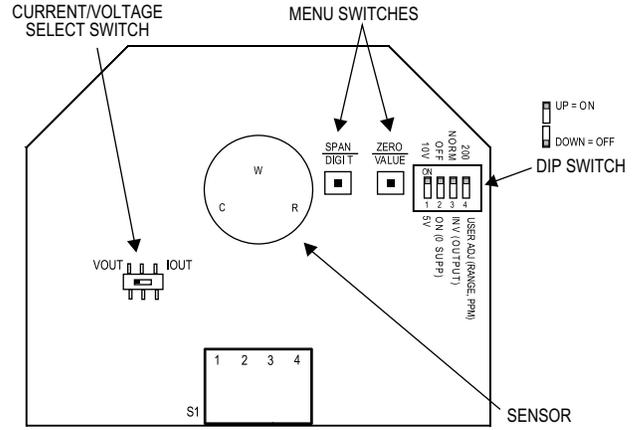

Figure 3
8. Set DIP SWITCH and IOUT/VOU SWITCH as desired. Refer to Figure 3.
To access the current/voltage select switch, remove the cover of the unit. The current/voltage select switch is located on the circuit board as shown in Figure 3. Set the switch to "IOUT" for current, "VOUT" for voltage.
To access the DIP SWITCH, remove the cover of the unit. The DIP SWITCH is located on the circuit board as shown in Figure 3.
1. Remove the cover plugs from the face of the unit and top cover. Locate the sensor, see Figure 3 – the sensor is mounted on three pin sockets. The circuit board is labeled either “CO SENSOR” or “NO2 SENSOR” underneath the sensor.